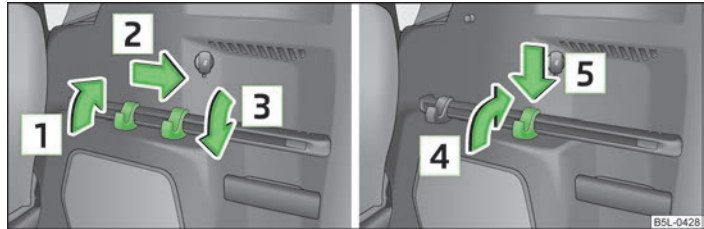

Fig. 57 Boot: Fastening strip with moveable hook/remove hook
A fastening strip is located on both sides of the boot with two moveable hooks each, in order to attach small items of luggage, such as bags, etc. » Fig. 57.
- Fold up the hook in direction of arrow » Fig. 57 until an angle of approx. 45° is reached.
- Fold the hook in the direction of the arrow » Fig. 57 until it slackens.
- Position the hook on the fastening strip in the vertical position in the direction of the arrow » Fig. 57 and lightly press it on.
- Fold up the hooks on the fastening strip in direction of arrow **1** » Fig. 57 on page 64.